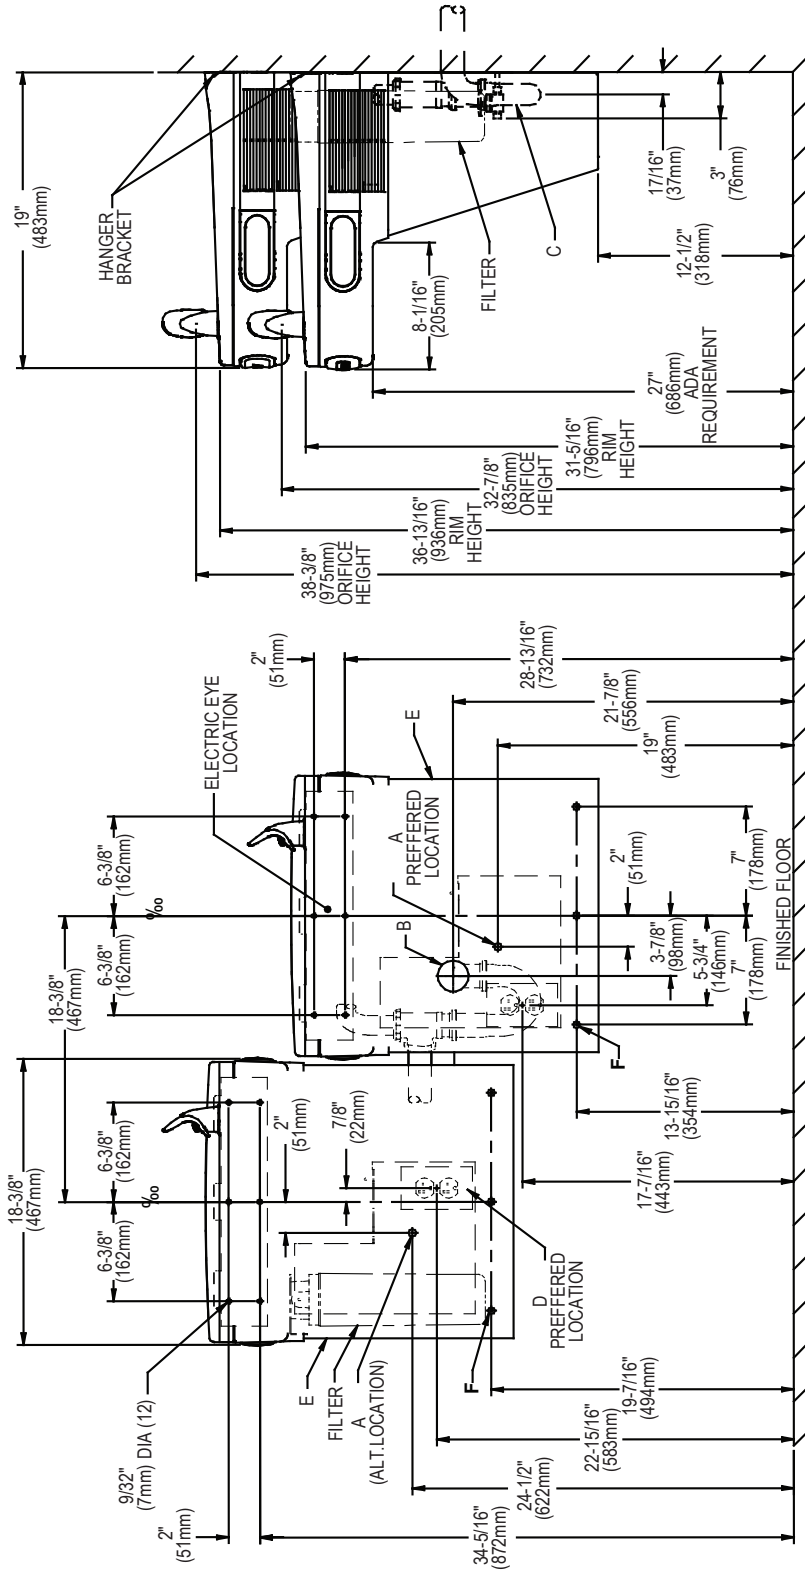

FIG. 3
- 1) Remove hanger brackets fastened to back of cooler by removing one (1) screw.
- 2) Mount the hanger brackets as shown in Figures 3, 4.
- NOTE:** Hanger Bracket **MUST** be supported securely. Add fixture support carrier if wall will not provide adequate support. Anchor hanger securely to wall using all six (6) 1/4 in. dia. mounting holes.